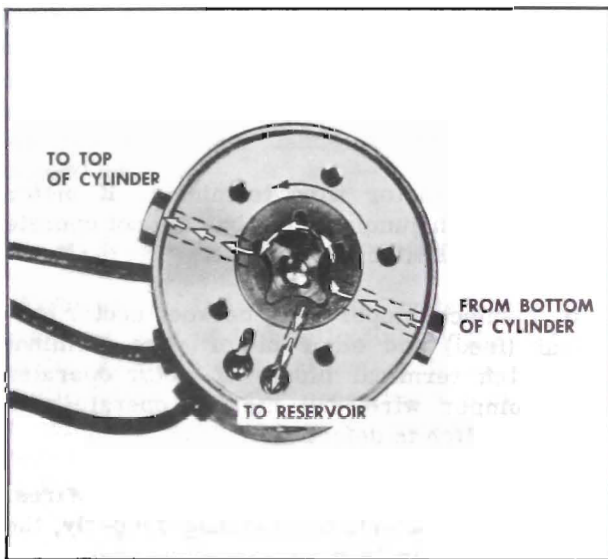

Figure 7-53—Operation Of Pump To Lower Top
2. Lowering the Top. When the green motor lead is energized the motor drive shaft turns the rotors counterclockwise as indicated by the large arrow in Figure 7-53. The action of the pump rotors forces the fluid under pressure to the top of each cylinder. This action causes the fluid below the piston in each cylinder to be forced into the pump which recirculates the fluid to the top of each cylinder. The surplus hydraulic fluid due to piston rod displacement flows into the reservoir.